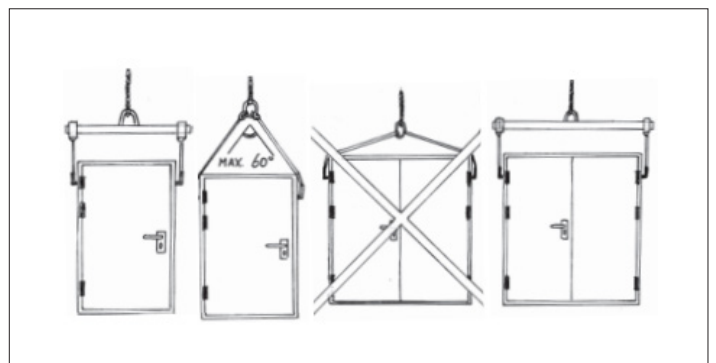

Figure 1: Only lift door with lifting hooks / lifting bar.
- A double door may only be lifted with a lifting bar (see figure 1). A fitting lifting bar with special lifting hooks is desirable.